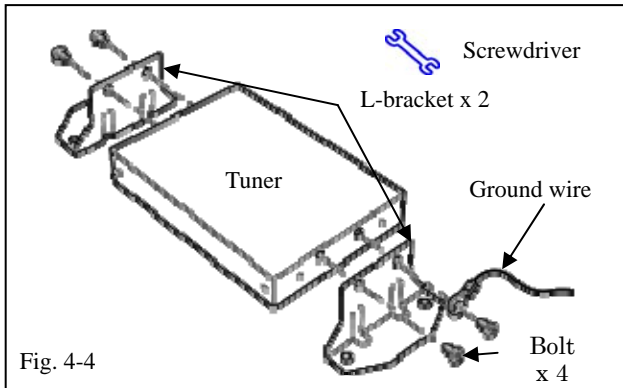

Fig. 4-4
- (h) Install tuner brackets and attach ground wire to tuner. (Fig. 4-4)